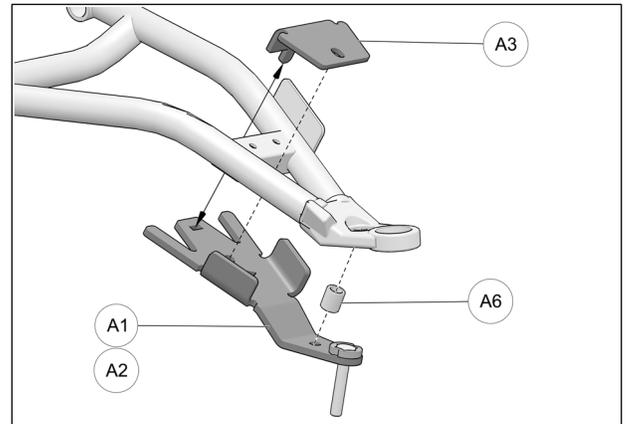

Fig. 15
5. Position bottom part of anchor bracket (A1-A2) under lower suspension arm. Position top part (A3) over suspension arm and insert tenon in mortise cut in bottom part. Insert bushing (A6) between bracket and suspension arm, at the location shown on Fig. 15